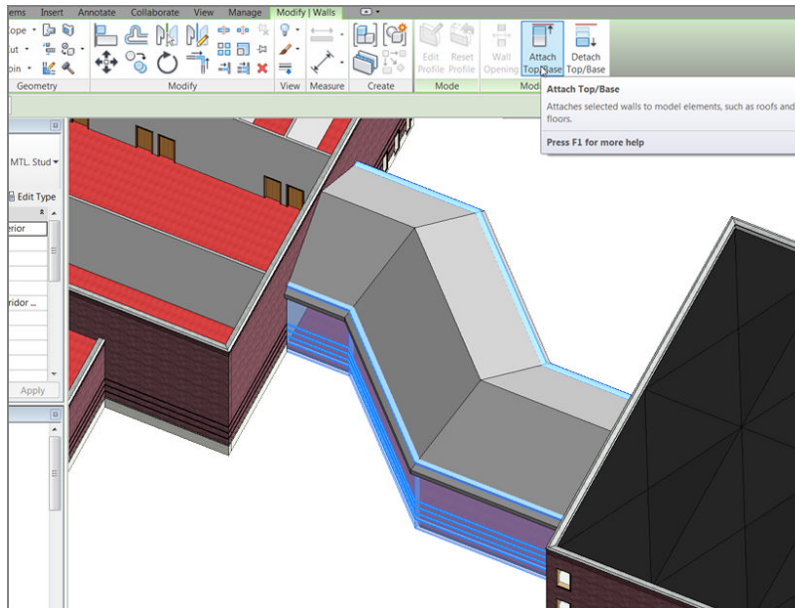

FIGURE 7.32: Attaching the top or the base
2. On the Modify | Walls tab is an option to attach the top or base of the wall, as shown in Figure 7.32. Click the Attach Top/Base button.